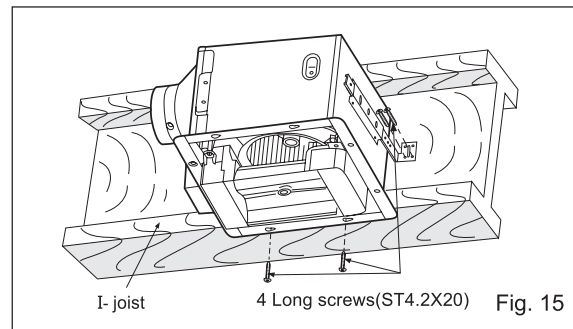

Fig. 15
3. Connect the fan body to the I-joist. (Fig. 15)